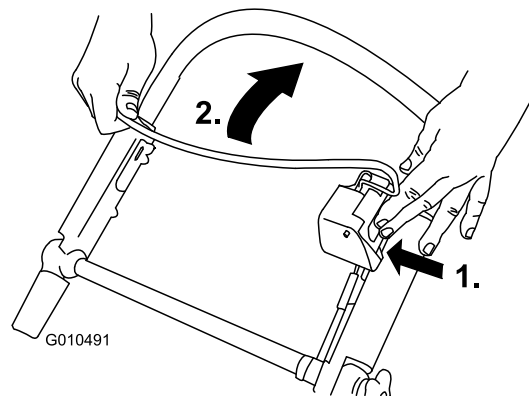

Figure 22
1. Push the blade control button and pull the blade control bar to the handle (Figure 22).